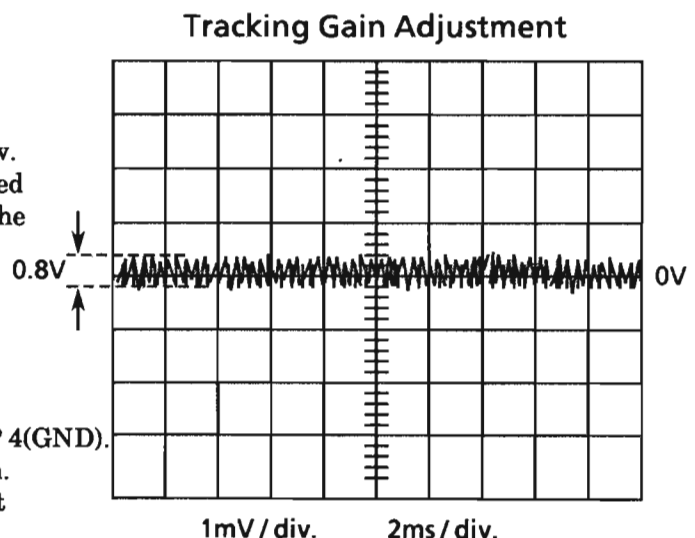

Figure 3
4. Adjust R704 (T.GAIN ADJ.) so that the correct waveform as shown in figure 3 is obtain.